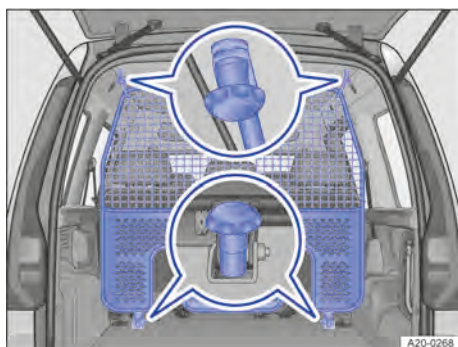

Fig. 154 In the luggage compartment: fitting the adjustable partition behind the second row of seats.
3. Bolt the adjustable partition to the rear fastening points in the roof → Fig. 154.
4. Bolt the adjustable partition to the lower anchor points → Fig. 154.
3. Bolt the adjustable partition to the front fastening points in the roof → Fig. 154.
1. Unscrew the adjustable partition from the lower anchor points → Fig. 154.
2. Unscrew the adjustable partition from the mountings in the roof → Fig. 154.